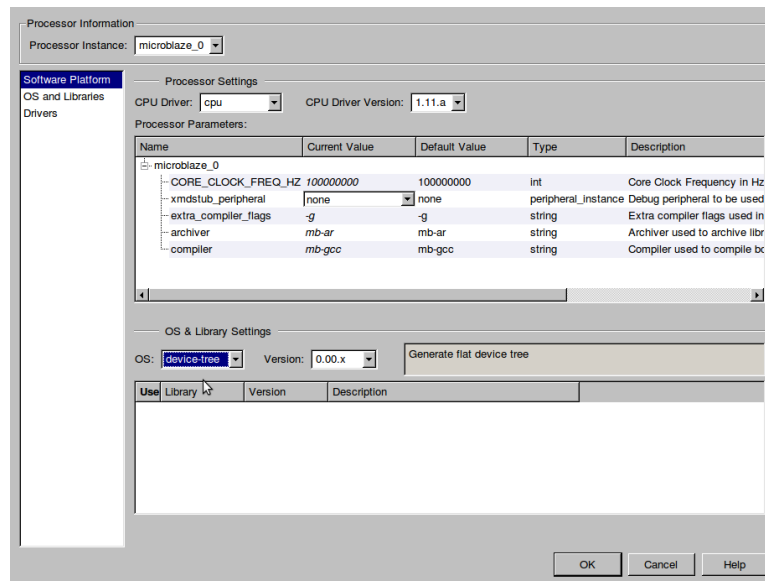

Figure 8: Software Platform Settings
- (d) Within the 'Software Platform Settings' window, change the 'OS' field to 'device-tree'. See Figure 8.